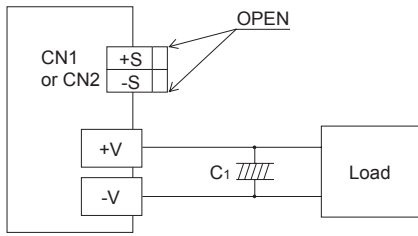
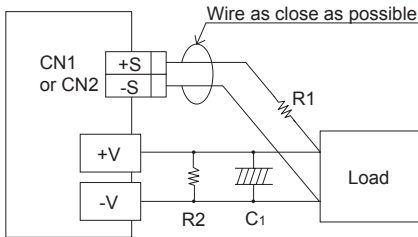

Fig. 3.2 When not using remote sensing function
Fig. 3.3 When using remote sensing function
■ Please see Fig. 3.2 if you do not use the remote sensing function. Please see Fig. 3.3 if you use the remote sensing function.
- ① Wire carefully. When a connection of a load line becomes loose (due to such factors as loose screw), the load current flows to the sensing line and internal circuits of the power supply may be damaged.
- ② Use a sufficiently thick wire to connect between the power supply and the load and keep the line drop at 0.3V or below.
- ③ Use a twisted pair wire or a shielded wire as the sensing line.
- ④ Do not draw the output current from +S or -S.
- ⑤ When the remote sensing function is used, the output voltage of the power supply may show an oscillating waveform or the output voltage may dramatically fluctuate because of an impedance of wiring and load conditions. Please check and evaluate carefully before using the remote sensing function. If the output voltage becomes unstable, we suggest you to try the followings.
- ⑥ If oscillation occurs because the sensing line is long, adjust with R1. Please contact us for details.